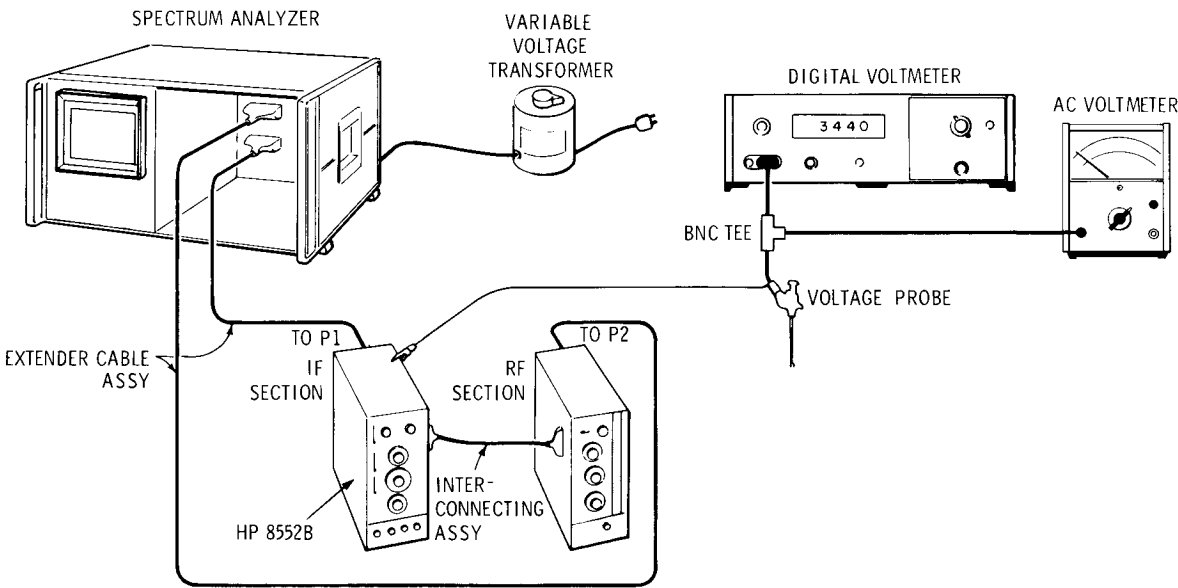

Figure 5-1. Power Supply Check and Adjustment Test Setup
1. Connect the test setup shown in Figure 5-1. Measure the dc display voltages with the HP 3440A/3443A Digital Voltmeter while the analyzer plug-ins are installed on extender cables.